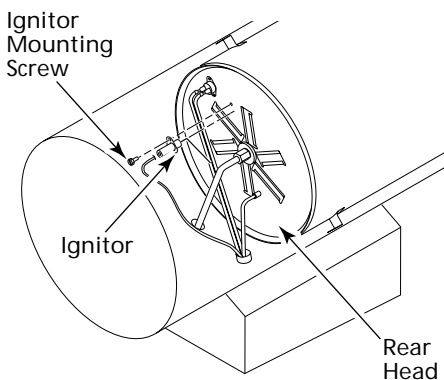

Figure 12 - Removing Ignitor Mounting Screw and Ignitor
- Remove ignitor mounting screw from rear head using nut-driver or standard screwdriver (See Figure 12).